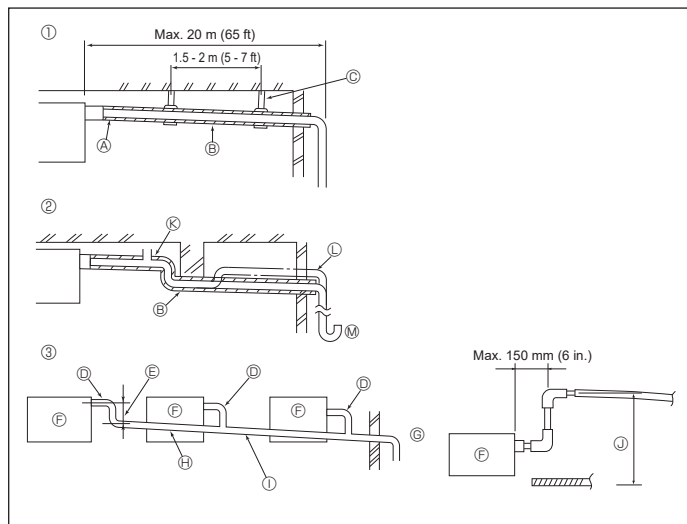

Fig. 6-1
6.1. Drainage piping work (Fig. 6-1)
- ① Correct piping
- ② Wrong piping
- ③ Grouped piping